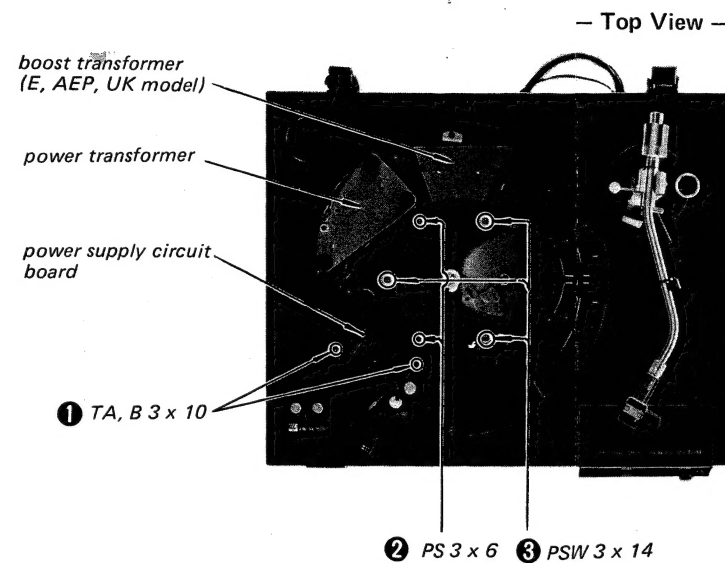

Fig. 3
1. Remove three screws ③ in Fig. 3.